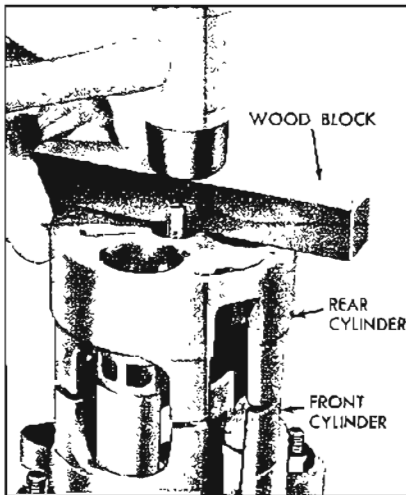

Figure 11-84—Assembling Rear Cylinder Half
27. Reassemble rear cylinder onto front cylinder using wood block and mallet (see Figure 11-84).